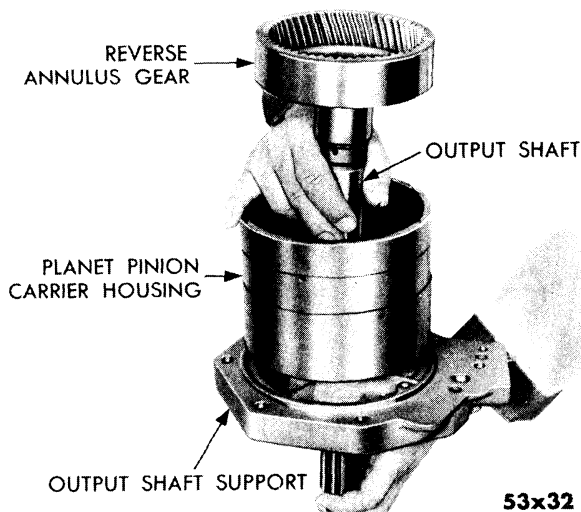

Fig. 81—Removal and Installation of Reverse Annulus Gear and Output Shaft
- (10) Remove the output shaft and reverse annulus gear assembly from the carrier housing and output shaft support, as shown in Figure 81.
- (11) Using pliers, Tool C-3301, remove the reverse annulus gear snap ring and remove annulus gear from output shaft. Inspect thrust surfaces and journals for scores and annulus gear for worn or broken teeth. Inspect splines on both shaft and gear for burrs and wear. Check speedometer pinion gear and gear on output shaft for burrs.